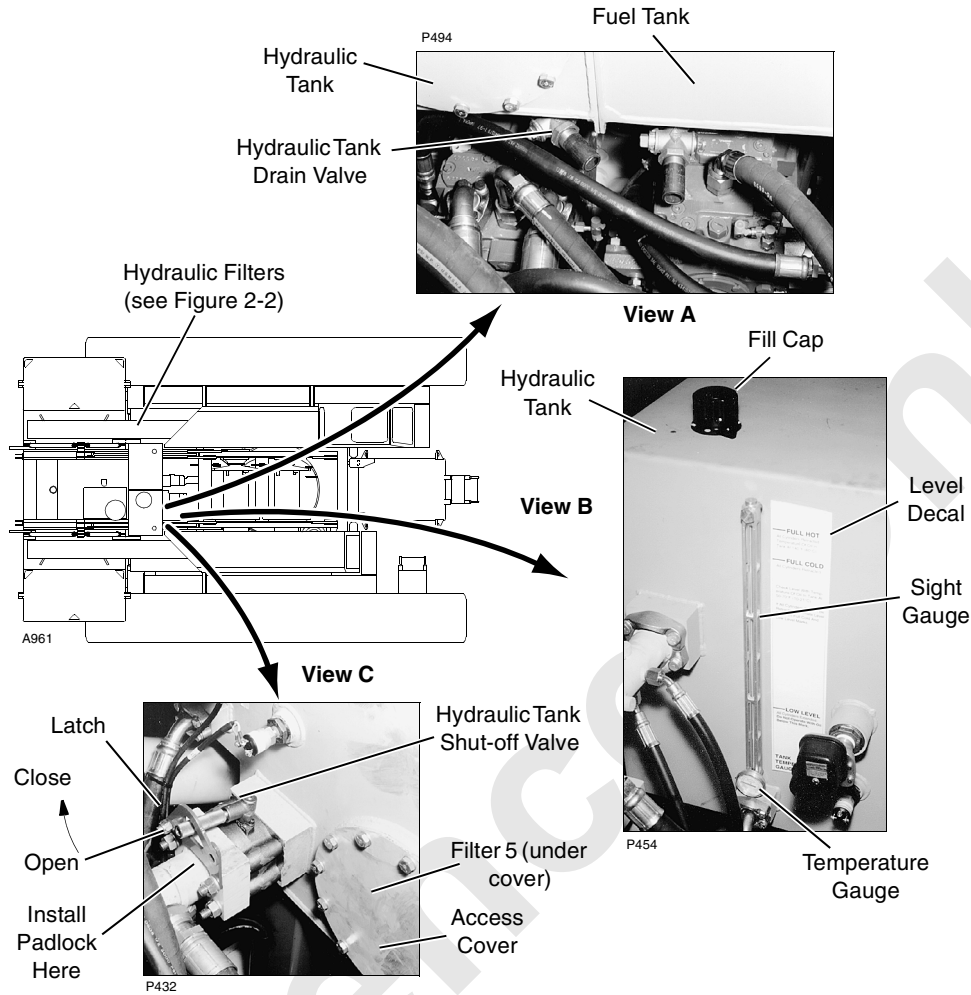

FIGURE 2-4
It is not necessary to drain the hydraulic tank when servicing the hydraulic pumps. To service the pumps, close the shut-off valve (Figure 2-4, View C) in the pump suction manifold.
Open shut-off valve at hydraulic tank (Figure 2-4, View C) and at Filter 1 (Figure 2-2, View B) before starting engine. Failing to perform this step will cause damage to pumps from cavitation.
3. Open drain valve (Figure 2-4, View A) on hydraulic tank to completely drain tank. Catch oil in suitable containers. Tank capacity is 120 gallons (454 liters).
6. Using a wrench, remove Filter 5 from inside tank. Filter 5 is accessible through cover on front of tank (Figure 2-4, View C).
12. Open shut-off valve at tank (Figure 2-4, View C).
17. Fill hydraulic tank to proper level as indicated on decal next to tank sight gauge (Figure 2-4, View B). Use proper hydraulic oil (see Lubrication Guide in Section 9 of this manual). Filter oil with a 10-micron element as oil is added to tank.
23. Stop engine and fill hydraulic tank to proper level as indicated on sight gauge (Figure 2-4, View B).